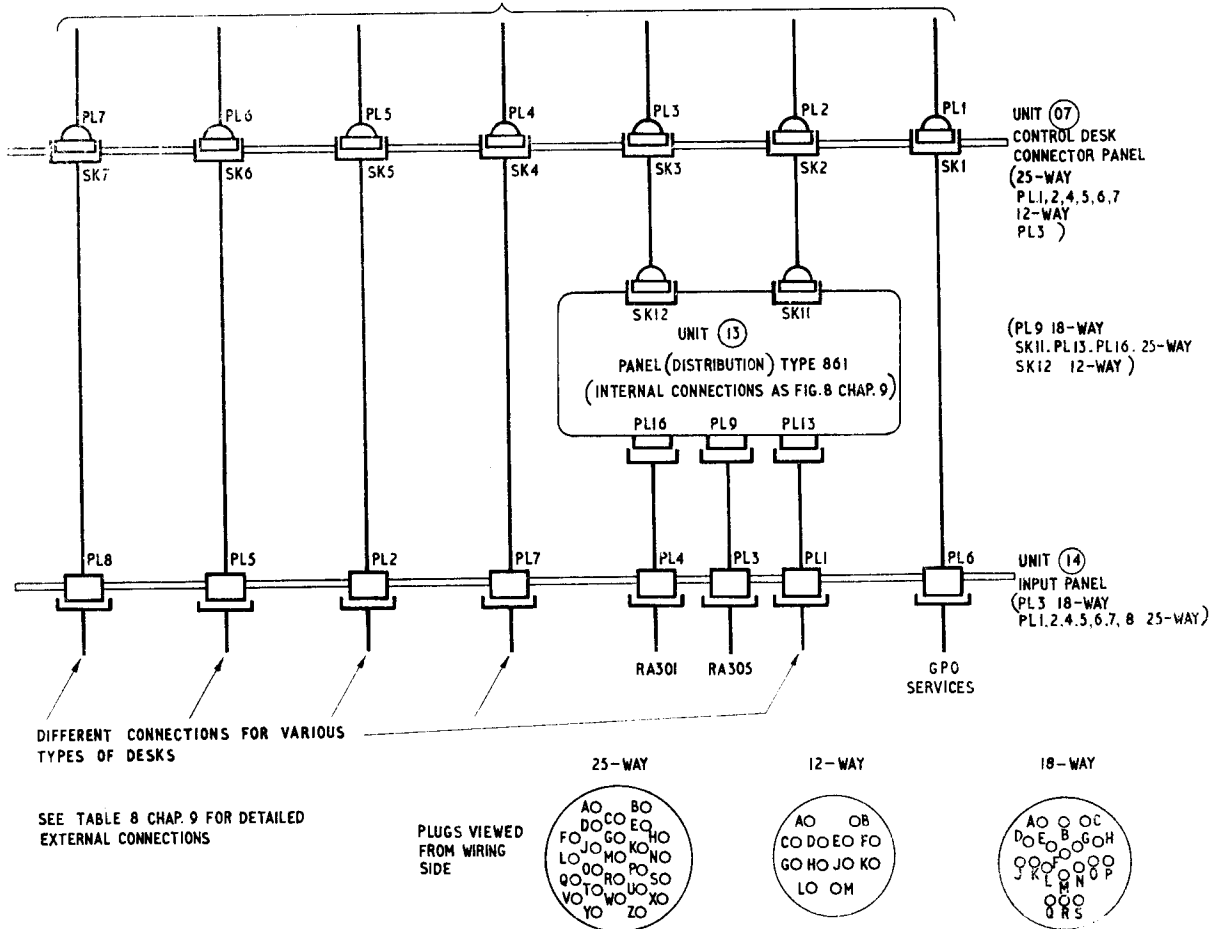

Fig. 1. External connections to control desks—block diagram
4. On all types of control desk, external connections are made via free plugs, which mate with panel-mounted sockets on the console control desk connector panel (unit 07). There are seven sockets on this panel, to cater for the various applications of the different types of desk, and connections are made as appropriate. Fig. 1 shows the services that are made available by the external connections, with reference to more detailed sources of information. The circuit diagrams of the individual control desks show which connectors are used.